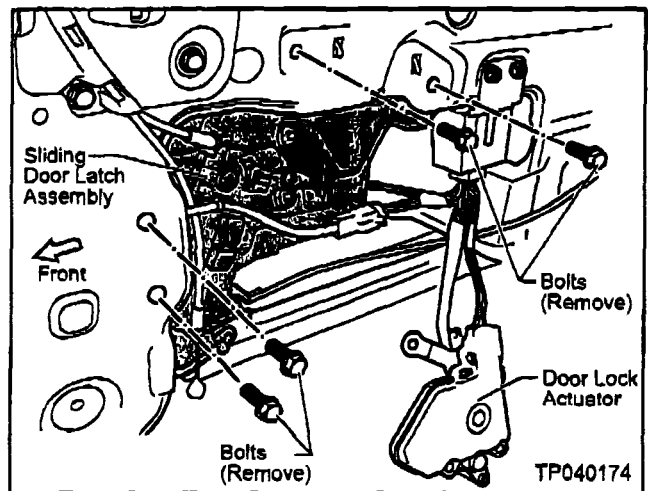

Figure 9
- Remove the four Bolts that secure the Latch Assembly to the door (see Figure 9).